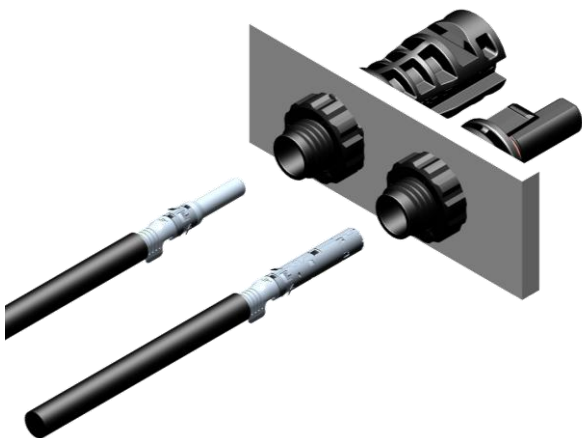
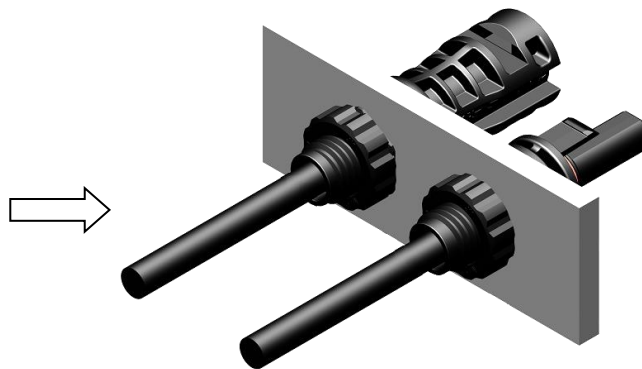

Figure 18
Figure 19
- ✧ 压接好的插针/插套插入到公端面板连接器/母端面板连接器内，直至其啮合（如图 18）。轻轻拉动导线，检查金属件是否啮合牢固（如图 19）。
Insert the crimped male or female terminals into corresponding male or female panel connectors separately until they engage (Fig.18). Pull lightly on the lead to check that the metal part has engaged. (Fig. 19).